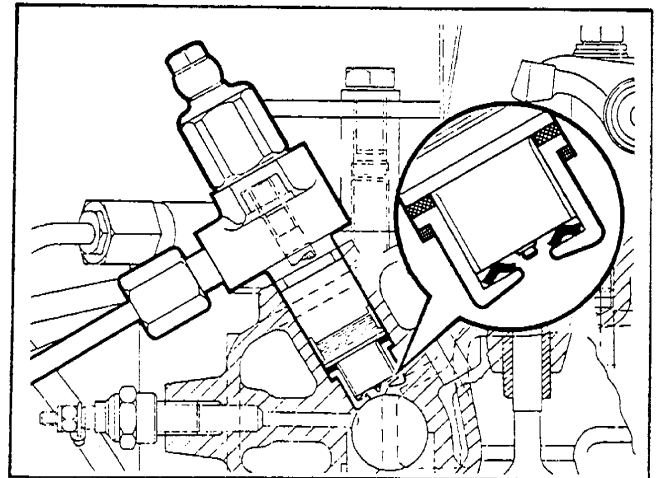

Fig. 1
5. Renew the atomizer seal washers, fitting the new washers as shown in Fig. 1.